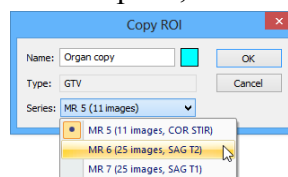

Figure 246 – Copy ROI dialog - selecting the target series
5. Select the target series from the **Series** drop-down menu, if desired (see Figure 246). It is only possible to select a target series that is registered with the source ROI series. The “source ROI” series is the default target series.